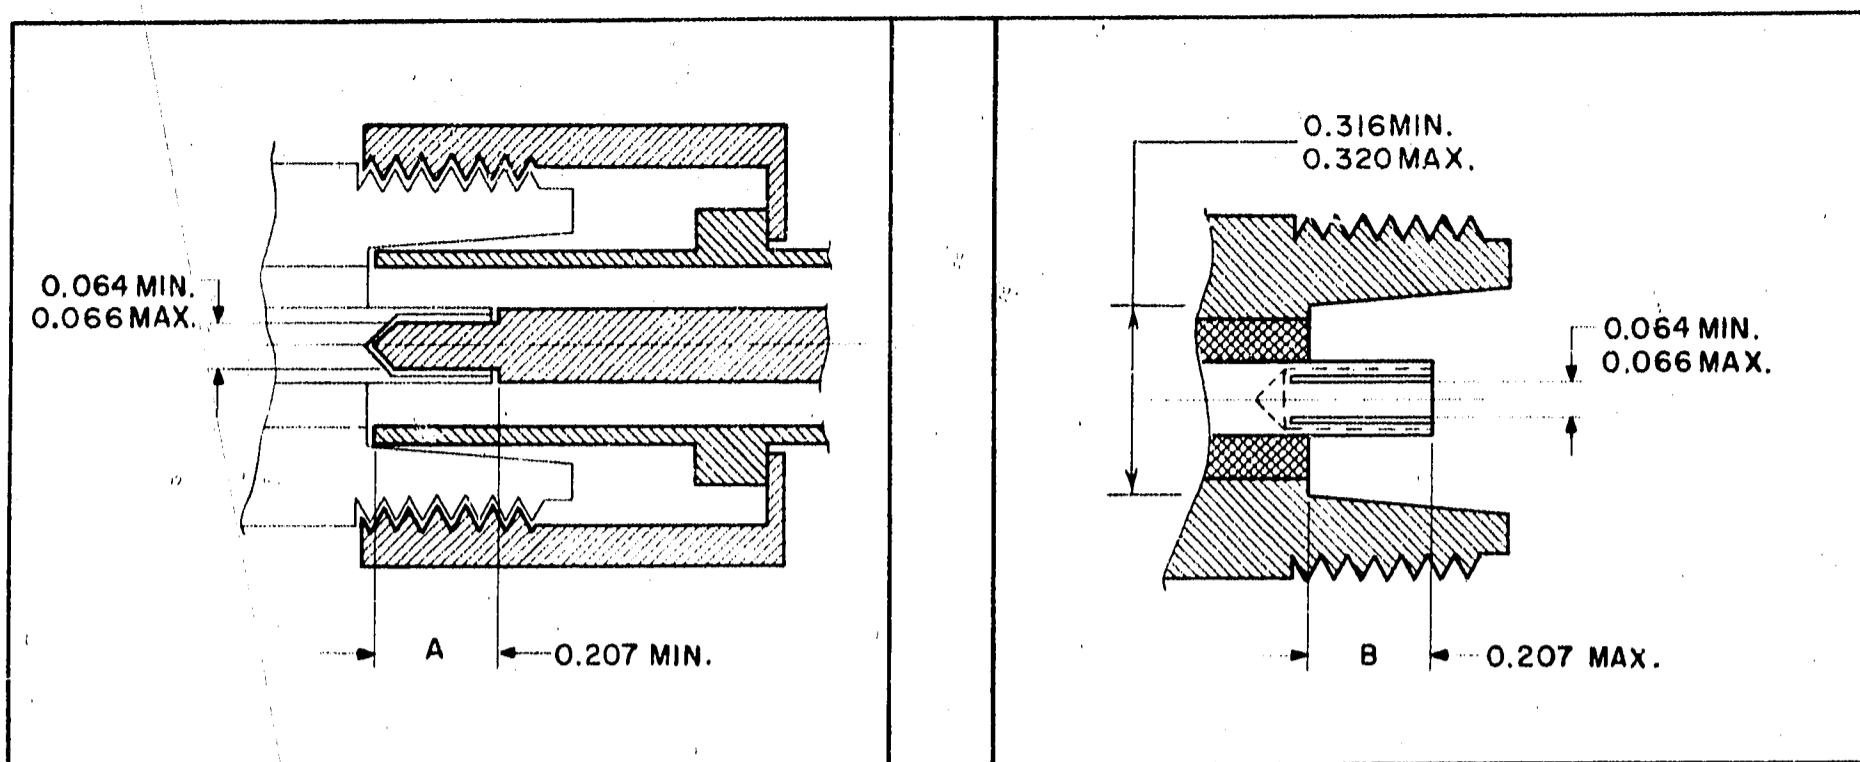

Figure 2. Type N Connector Dimensions
4. The type N connectors on these directional detectors mate compatibly with connectors whose dimensions conform to MIL-C-39012 or MIL-C-71 (see Figure 2). In addition, the connector bodies are stainless steel for long wear.